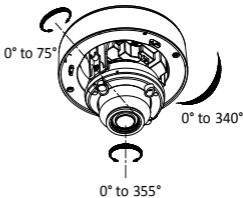

Figure 2-4 3-axis Adjustment
7. Adjust the camera according to Figure 2-4 to get an optimum angle.